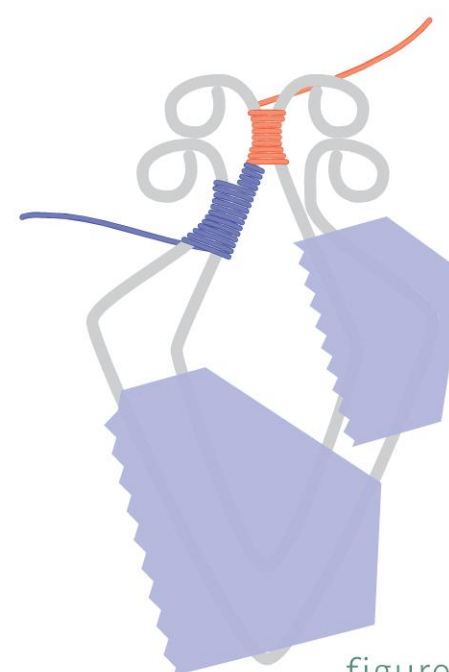

figure 4
- 11 Cut 4' (1.2 m) of 26-gauge wire if you are comfortable working with that length; otherwise, cut 2' (61 cm) to 3' (91 cm) and add wire as necessary as you work. This is the weaving wire. Coil the two loops of the Inner Frame together ten to twelve times (Figure 4—red wire).
- 13 Coil the Inner and Outer Frames together twelve to fourteen times, coiling until there's enough space between the two frames to begin weaving (Figure 4—blue wire). Reposition the tape as necessary. **NOTE:** Since only one side of the frames is attached, the second side of the frames needs to be taped together.